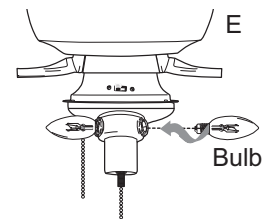

Fig. 9
9. Install three 40 watt max. candelabra base bulbs (not included); size CA8 is recommended. [Fig. 9]